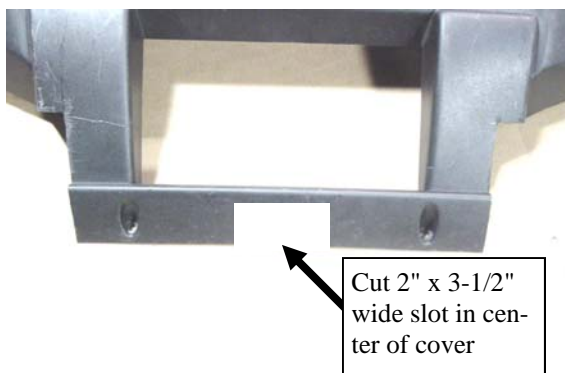

Fig. 1.3—Cut Bumper Cover
1.3 Per fig. 1.3, cut a slot in the bottom of the plastic bumper cover.